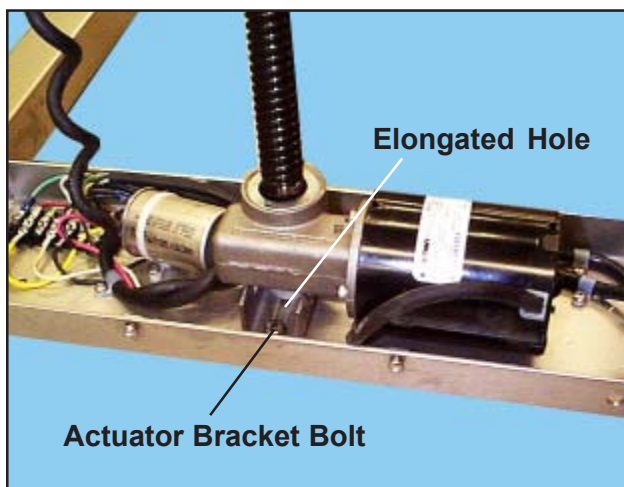
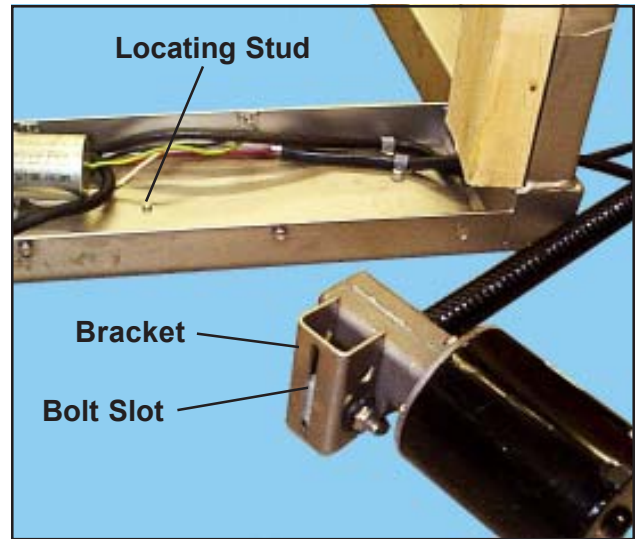

Figure 29. Actuator Bracket Bolt & Elongated Hole
Figure 35. Locating Stud and Bolt Slot
18. Note the position of the actuator bracket bolt in the elongated hole (Figure 29). **Note:** You must mount the bracket in the same position when you replace the actuator.
21. Lift out the actuator assembly. **Note:** It may be necessary to pry the assembly up slightly so the bracket clears a locating stud in the bottom of the tray (Figure 35).
5. Place the lower end of the actuator into the bottom tray. The locating stud in the tray (Figure 35) must engage the bolt slot in the bracket. **Note:** Refer to Figure 29 for correct orientation of the actuator in the table.
7. Secure the lower end of the actuator in place with the actuator bracket bolt (Figure 29). The bolt must be oriented in the bolt slot just as it was before the old actuator was removed. **Note:** Leave the bolt slightly loose for now.